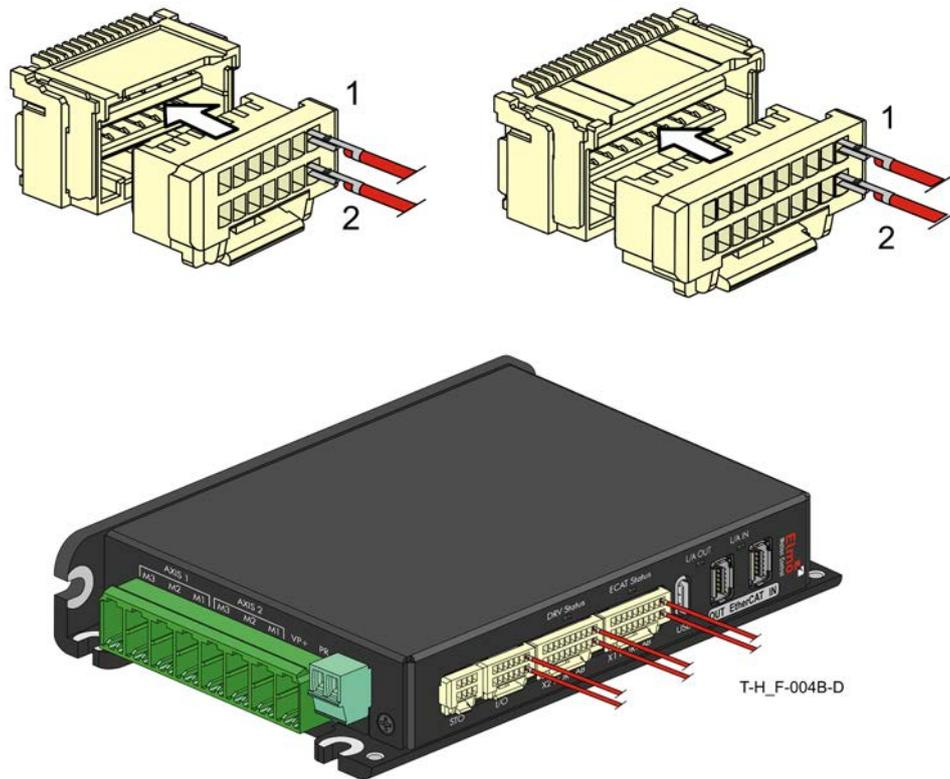

Figure 20: Inserting a wire/pin to the Female Connector
3. Place the connector on a flat surface, in the orientation as shown in Figure 20. Notice that the rectangular slot has a niche at the bottom of the slot.
4. Insert the wire connector to the slot as shown in Figure 20. Make sure that the connector protrusion is inserted to the bottom of the rectangular slot.